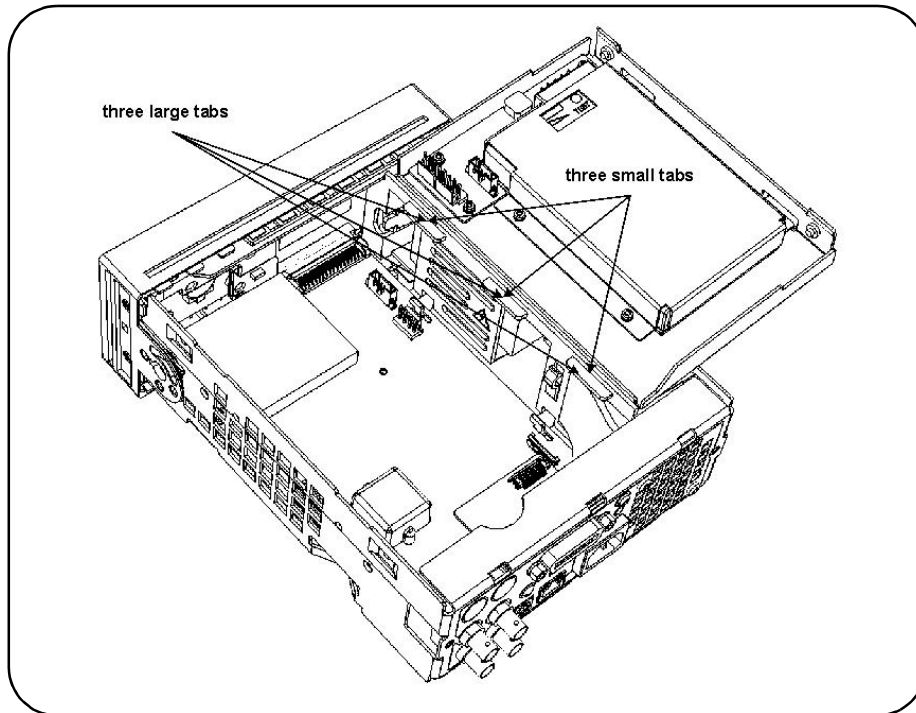

Figure 3. Temporarily Moving the Internal Battery (Option 300).
2. Lift up carefully on the left side of the assembly and remove the assembly from the three large tabs holding it on the right side (Figure 3). Disconnect the two cables going to the assembly.